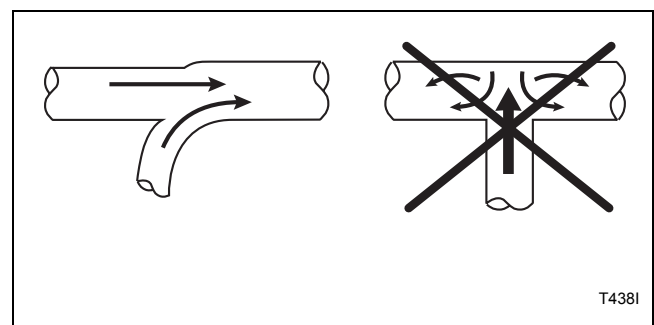

Figure 14
**NOTE:** Never connect a tumbler duct at a 90° angle to the collector duct. Refer to *Figure 14*. Doing so will cause excessive back pressure, resulting in poor performance. Never connect two tumbler exhaust ducts directly across from each other at the point of entry to the collector duct.